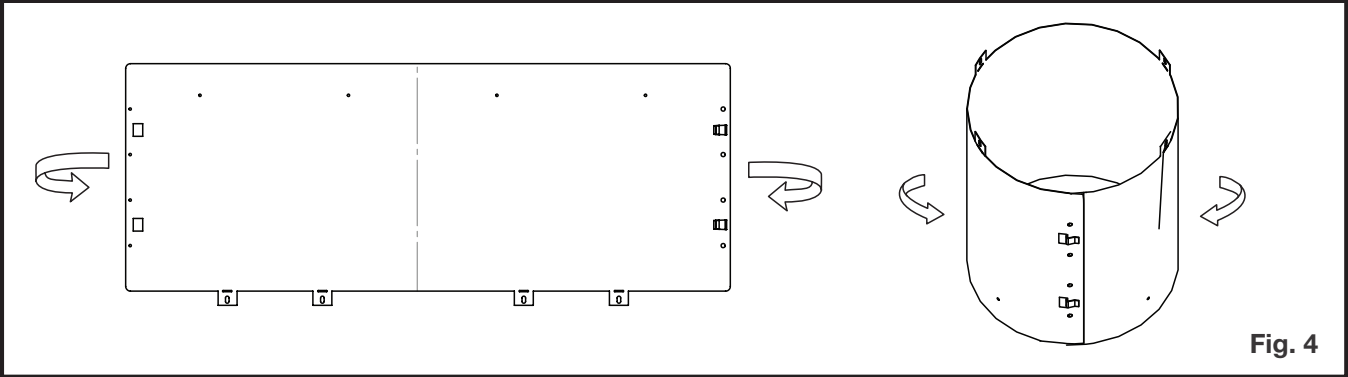

Fig. 4
- 4. Bend vent sleeve as shown and ensure to clip the ends together (Figure 4).
4. Remove the fasteners as shown in Figure 4. DO NOT DISCARD FASTENERS